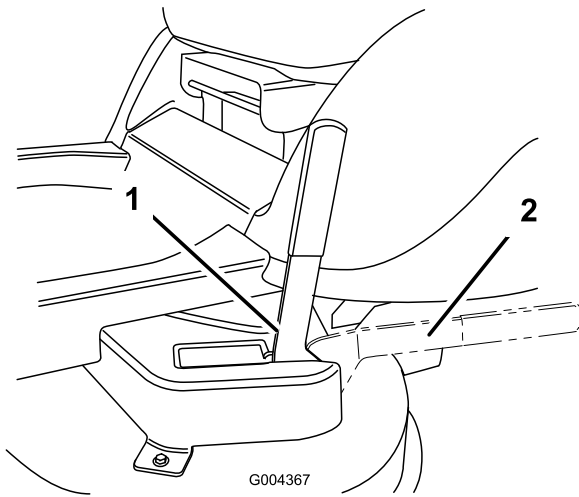

Figure 15
3. Move the recycle-on-demand lever (Figure 15) to the desired position: